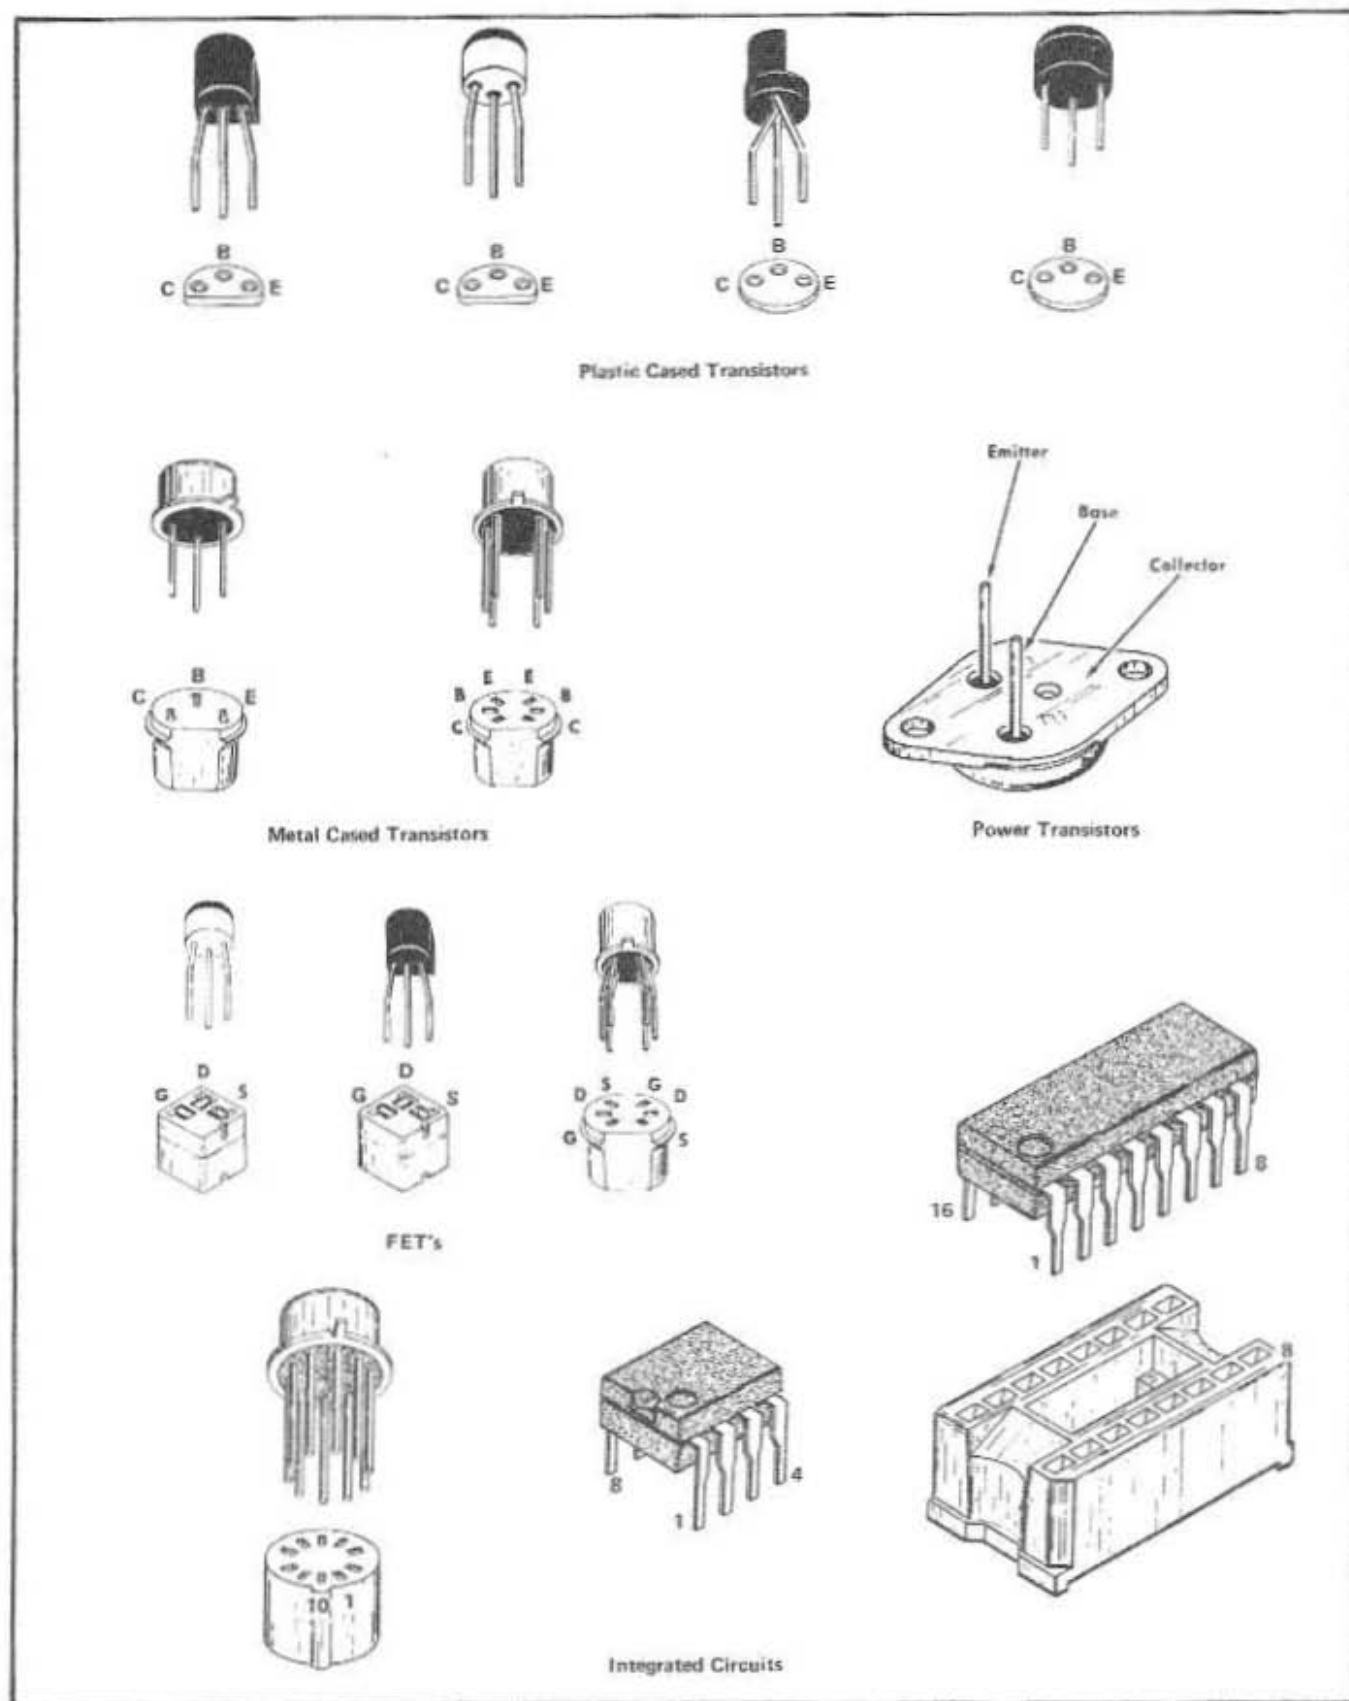
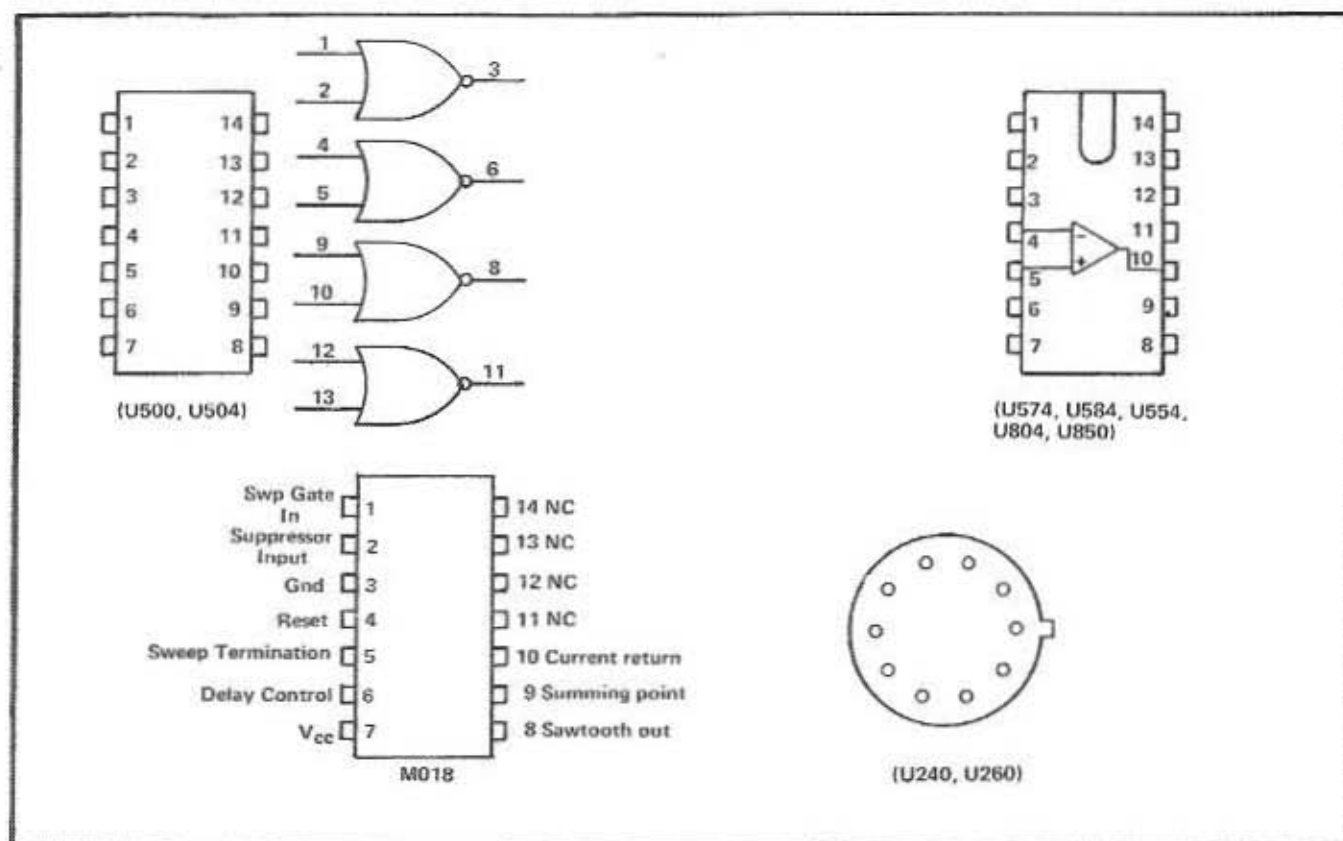

Fig. 4-4. Electrode configuration for socket mounted transistors, FET's, and IC's.
Fig. 4-5. Lead configuration for the IC's used in the 1401.
Transistor and Integrated Circuit Electrode Configuration. Lead identification for the transistors and IC's are shown in Fig. 4-4 and Fig. 4-5.
4. Be sure the component is inserted properly in the socket (see Fig. 4-4).
Integrated Circuit (IC) Checks. Integrated circuits are most easily checked by direct replacement. When substitution is impossible, check input and output signal states as described in the circuit description and on the diagram. Lead configuration and data for the IC's used in this instrument are provided by Fig. 4-4 and Fig. 4-5.